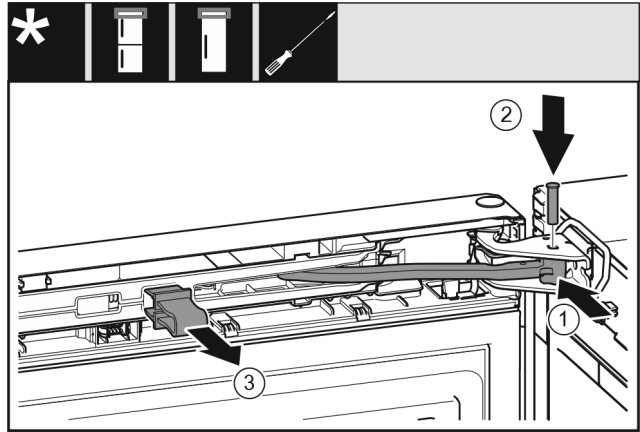

Fig. 25
- ▶ Turn the joint Fig. 25 (1) in the bearing block.
- ▶ Insert thebolt Fig. 25 (2) into the bearing bracket and joint. Ensure that the latching cam is in the groove properly.
- ▶ Remove the safeguard Fig. 25 (3).